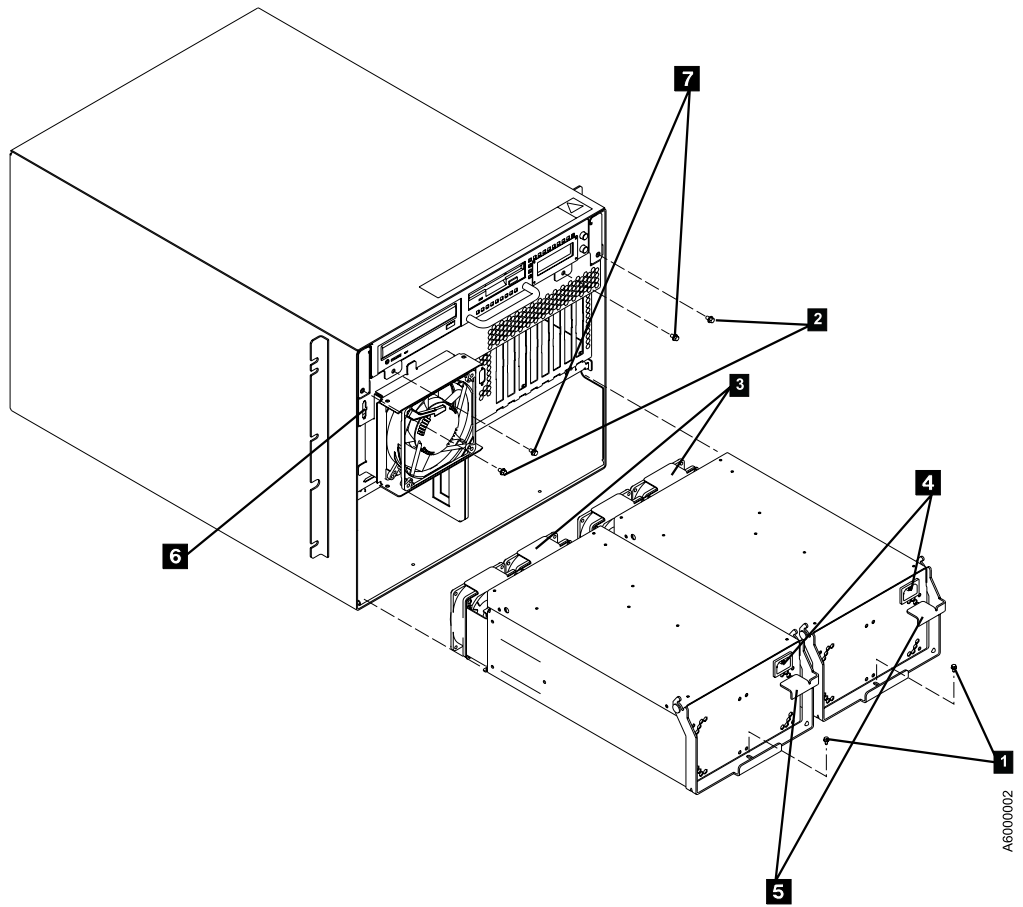

Figure 82. A60 Controller Rear View
- \_\_\_ Step 3. Remove two chassis housing screws, refer to Figure 82 on page 322 **2**
- \_\_\_ Step 4. Unplug the two power cords from the power supply connectors (power supply end). Refer to Figure 82 on page 322 **4**
- \_\_\_ Step 5. Replace the two chassis housing screws, refer to Figure 82 on page 322 **2**
- \_\_\_ Step 6. Plug the power supply cords back into the power supplies. Refer to Figure 82 on page 322 **4**